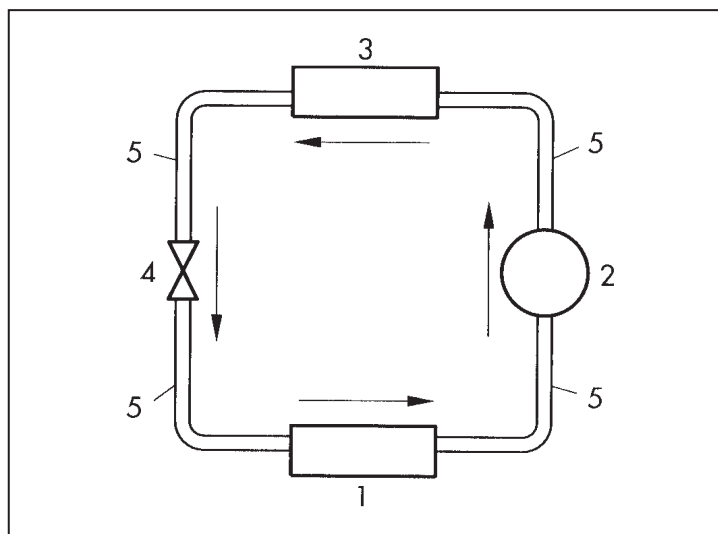
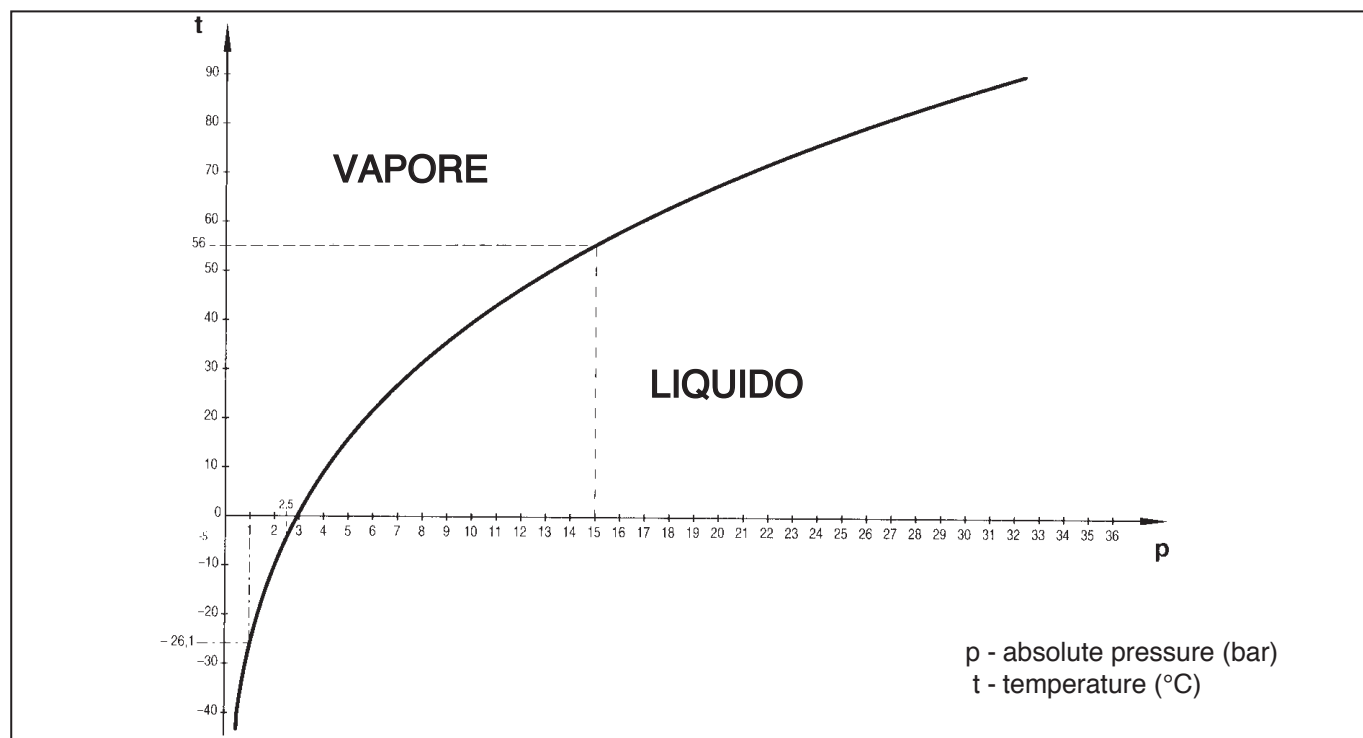
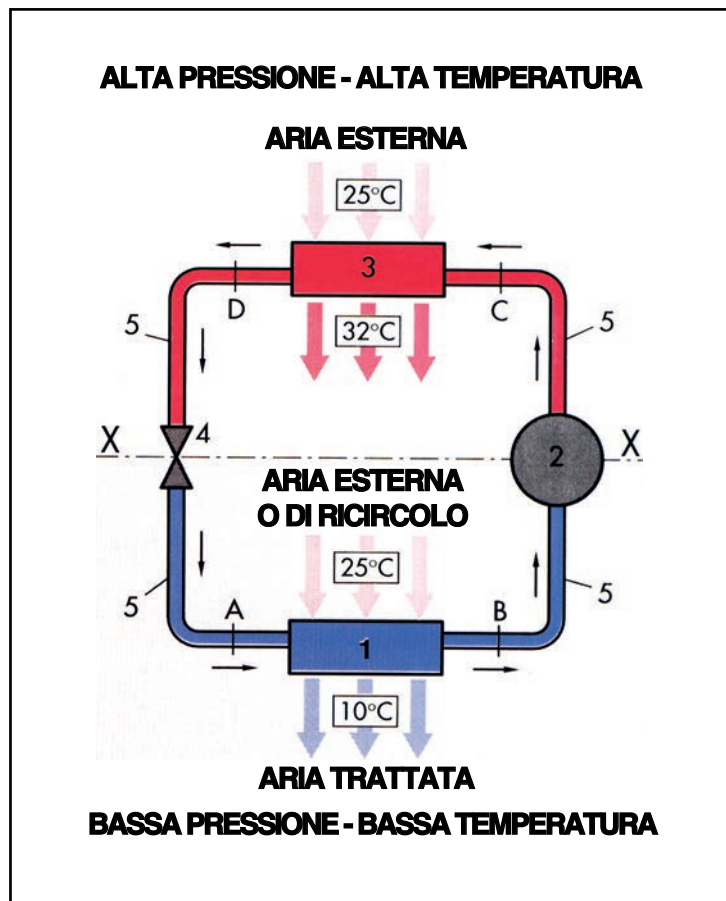

Fig. 11.20
Fig. 11.21
Fig. 11.22
In this chapter, we will discuss the basic operating principle of an air conditioning system. Fig.11.21).
The extremely simplified schematic diagram in Fig.11.20 illustrates a closed circuit system consisting of the four indispensable components for the refrigeration cycle - evaporator (1), compressor (2), condenser (3) and expansion valve (4) - organised in their functional order, and of the tubing (5) connecting the components themselves.
The basic principles of physics illustrated in the previous chapter may be used to explain each stage in this cycle. As an aid for understanding the concepts explained, another simplified circuit diagram (Fig.11.22), which is similar to the circuit shown in Fig.11.20, will be used as an example. Before continuing with the description of the cycle, however, to offer a clearer understanding of the pressure and temperature values mentioned, the pressure/temperature curve of R134a refrigerant - which is currently used in air conditioning systems for passenger vehicles and agricultural tractors - is given as a broadly generalised example (see
We shall now analyse the stages in the cycle, beginning from point A in the circuit (Fig.11.22), at the inlet side of the evaporator. As the function of the evaporator is to extract heat from the cabin, it may be situated within or be directly connected to the cabin. In order to extract heat, the temperature of the evaporator must be lower than that of the environment to be cooled, to allow heat to flow spontaneously from the (warmer) environment to the (cooler) evaporator. Suppose that at point A, the refrigerant is in liquid state at a pressure of 2.5 bar and, therefore, at a temperature of approximately $-5\text{ }^{\circ}\text{C}$ (Fig.11.21).
These two sections are separated by the theoretical line X-X shown in Fig.11.22, cutting through the compressor and the expansion valve.